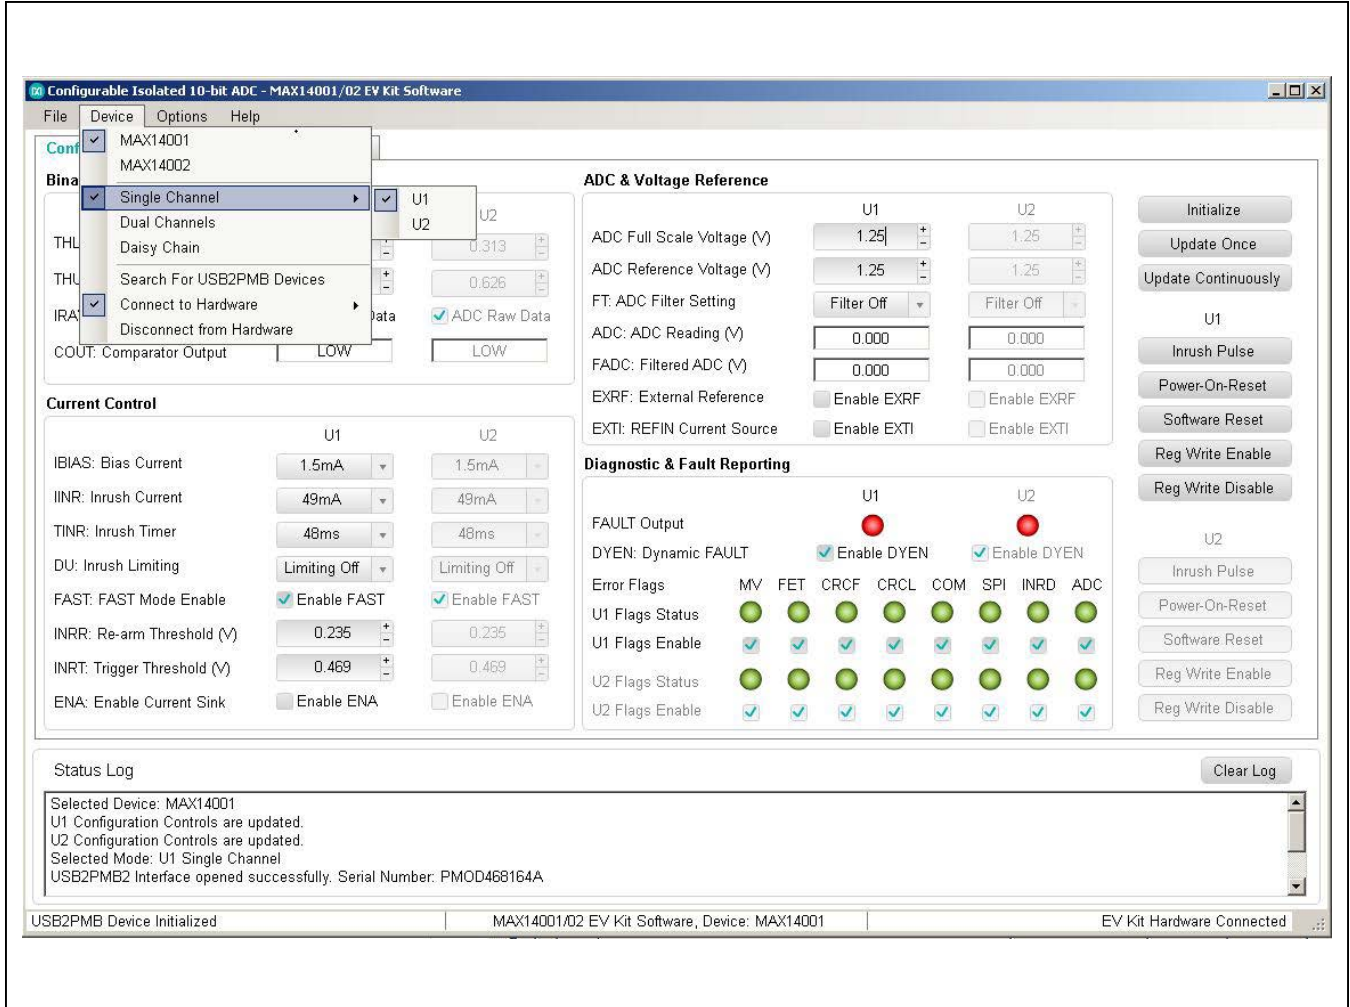

Figure 2. MAX14001/MAX14002 EV Kit Software Startup Window
- 10) Once the hardware is ready to use, launch the EV kit software by opening its icon in the **Start | Programs** menu. The EV kit software appears as shown in Figure 2.
- 17) In the **Configuration** tab of the EV kit software, change **U1 ADC Full Scale Voltage (V)** box to be 13.75V.